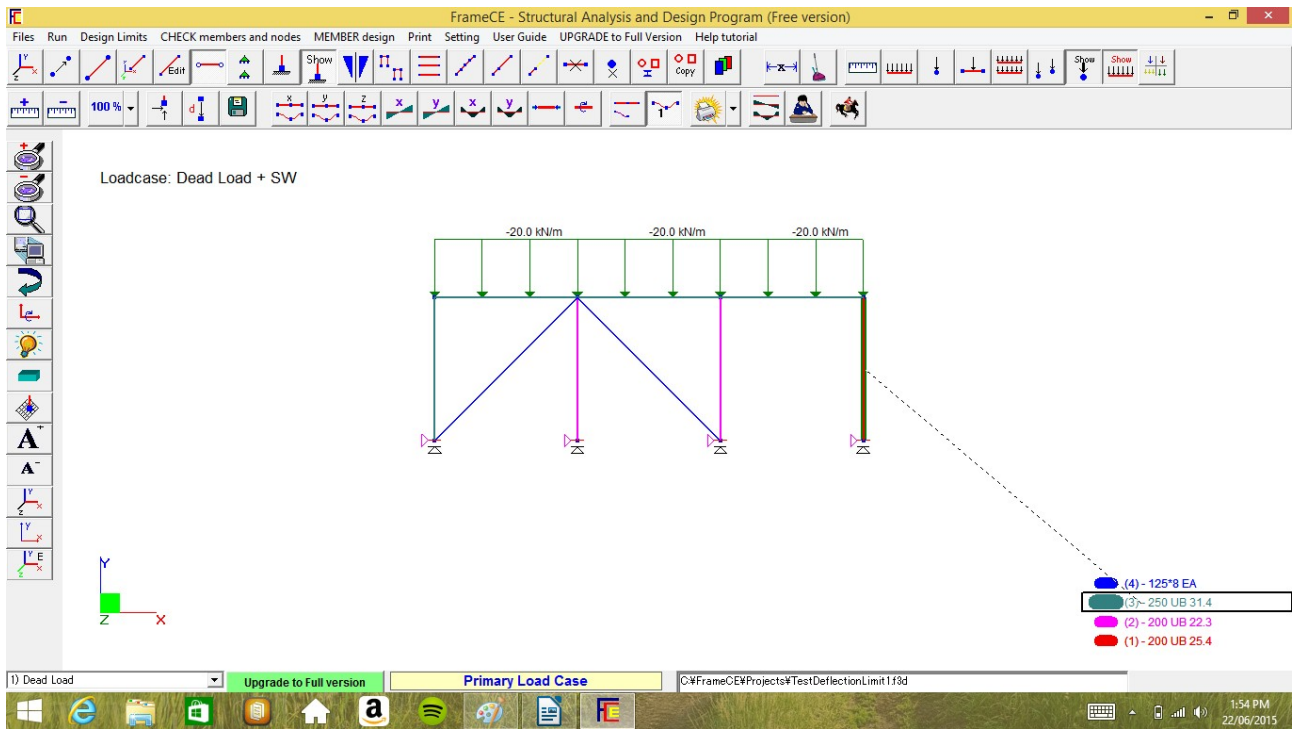

Figure 44
**Step 2:** Click the frame members that you want to receive the properties of the selected section as shown in Figure 44